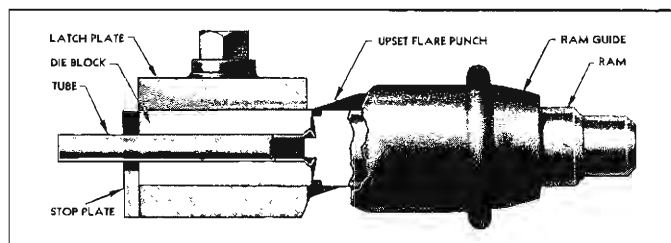

Fig. 10—Flaring Operation—First Flare
6. Using the supplied wrench, draw the latch plate nuts down tight to prevent the tube from slipping. Tightening the nuts alternately (beginning with the nut on the closed side) will prevent distortion of the plate. Remove the punch and the ram. Now reverse the punch and put it back into the tool body. Install the ram and tap it lightly until the face of the upset flare punch contacts the face of the die blocks (fig. 10). This completes the first operation. Remove the ram and the punch.